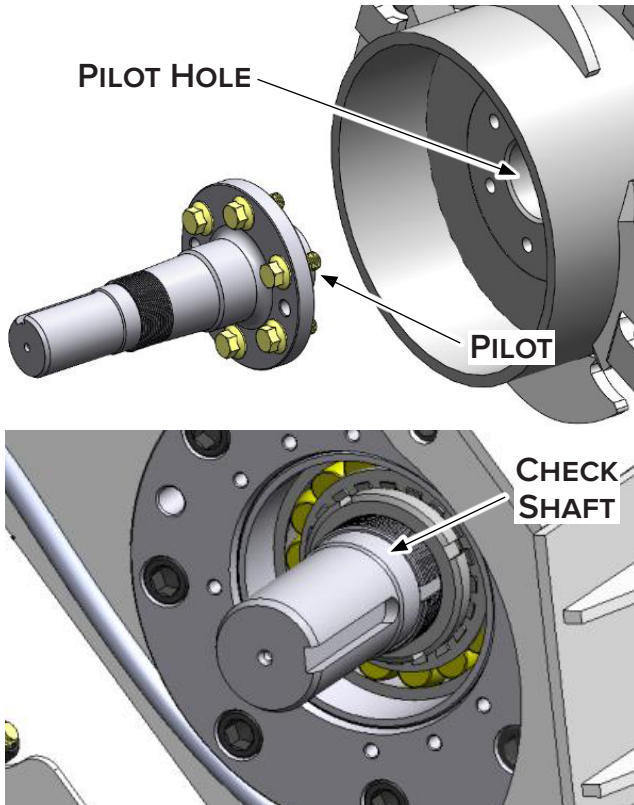

Figure 26
4. Before installing the bearing housing covers, inspect the shaft run out. Maximum run out is  $\pm 0.015$  inches. See “Check Shaft” in Figure 26.